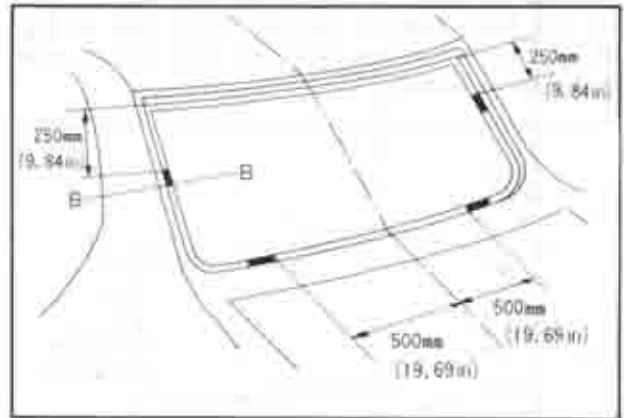

Fig. 14-37 Position of spacers
3. The directions and positions each spacer to be bonded are shown in Fig. 14-37.